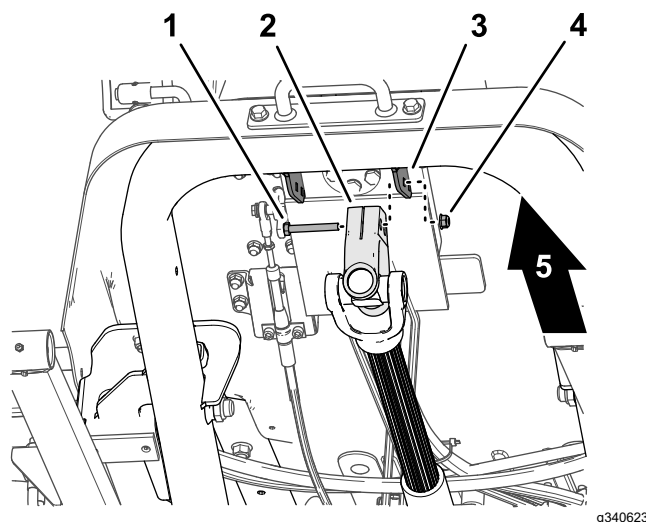

Figure 17
1. While supporting the driveshaft, remove the capscrew and locknut that secure the driveshaft yoke to the steering valve-mount bracket (Figure 17), and carefully lower the driveshaft.